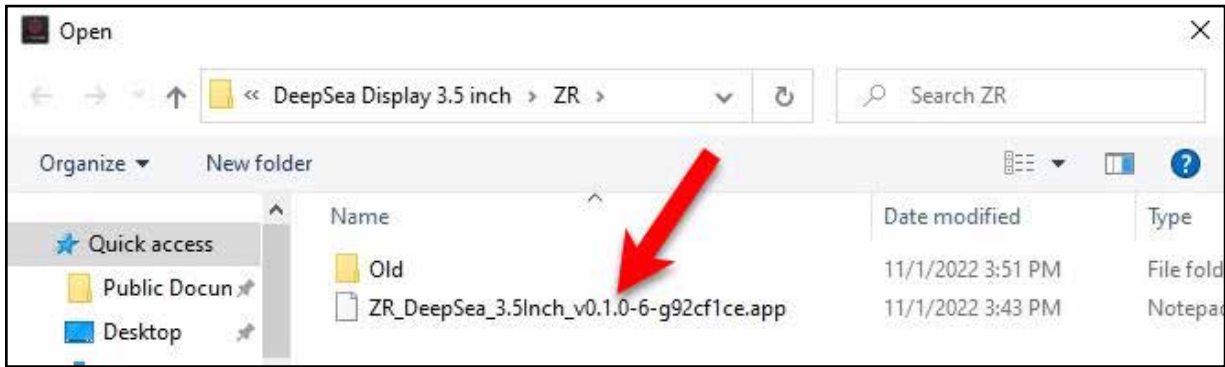

Figure 7
7. Use the File Explorer to locate and select the correct file (Figure 7).